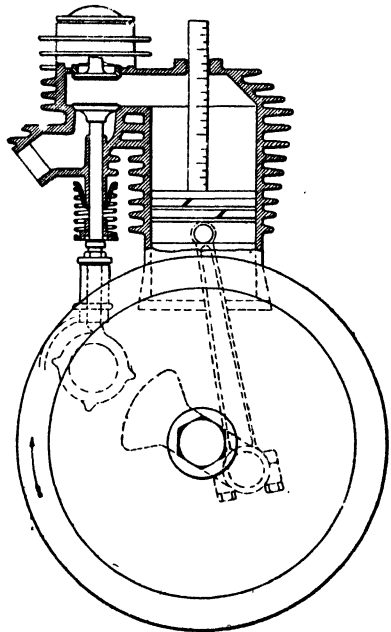

Fig. 70. Method of Following Out Valve Timing by Means of Scale
*Getting Valve Timing with Scale.* Where the cams are all made integral, only one point of the timing can be controlled, the other points being in a fixed relation, the accuracy of which depends upon the workmanship in the cam-grinding department. Since the closing of the exhaust and the opening of the inlet is important for smooth running, this is the point that is taken for setting the valves. Fig. 70 shows a very easy method of following out the valve timing. A scale is dropped through one of the openings in the top of the cylinder, possibly the spark-plug hole, and, after the dead-center points have been noted, the crankshaft is revolved until the scale shows that the piston has moved down or up the desired distance from dead center. With the crank at this point, the gears are slipped into mesh so that the valve will be just opening or closing, as the case may be.